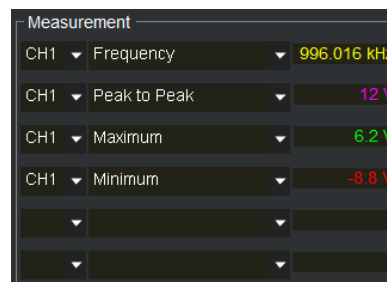

Figure 36. Choose Channels & measurements to log
3. Choose the **Datalog** tab and select the measurements& channels to be logged in the upper left of the screen (Figure 36).